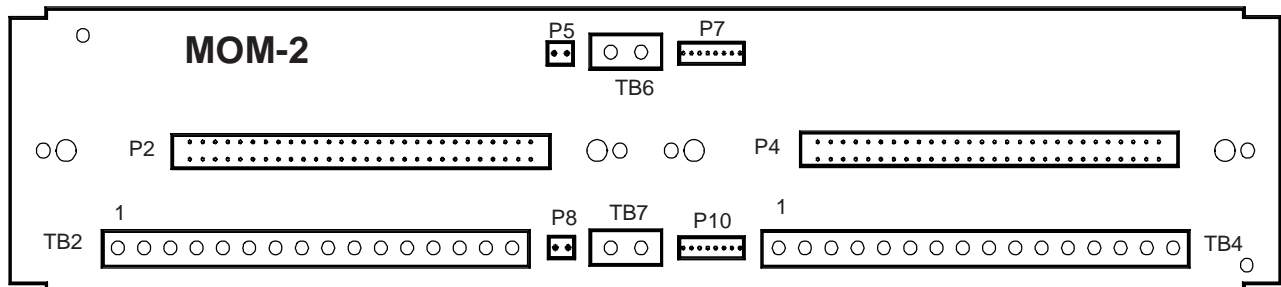

Figure 1
The Model MOM-2 Card Cage board (See Figure 1) provides the MXL/MXL-IQ with two card slots for optional modules. Each MOM-2 has space for one full-width optional module or two half-width optional modules. The MOM-2 comes with two card guides for mounting one full-width module. The half-width modules come with the necessary extra card guides for mounting them.
1. Hold the MOM-2 so that terminal block TB4 is at the top right-hand position. (See Figure 1 for the location of TB4.)